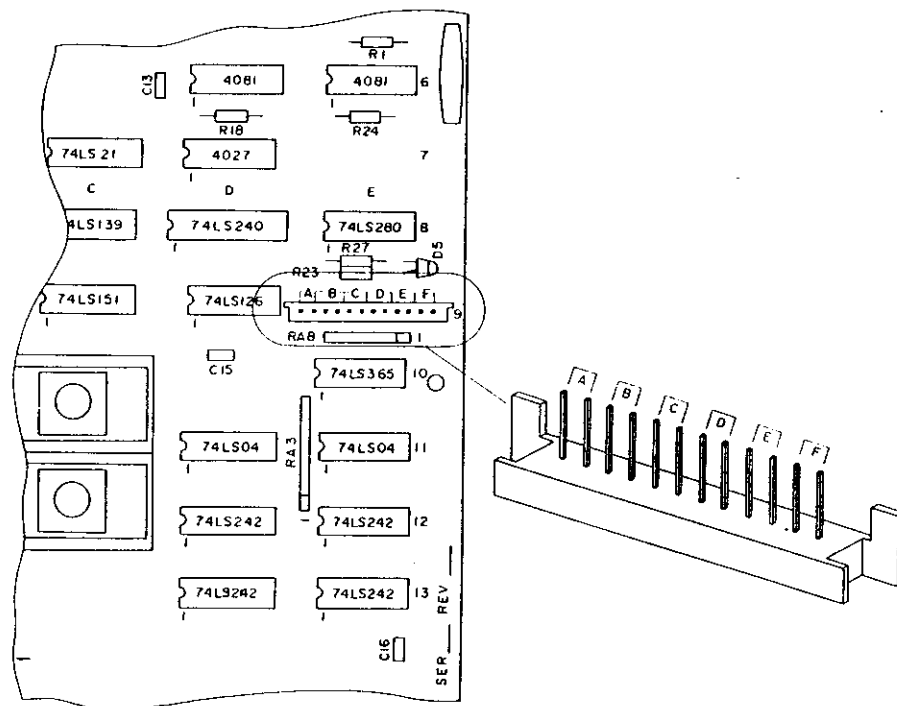

FIGURE 20 MPU Strapping Jack Pin Assignments
To determine the feature settings on the MPU printed circuit card, refer to the strapping jack requirements listed in TABLE 12. Refer to FIGURE 20 for strapping jack locations and pin assignments on the MPU printed-circuit card. A total of 100 strapping jacks are supplied with each KSU.
- (1) Turn off the system power supply and remove the system MPU and MEM circuit card.
- (2) Refer to ET-2460 Tech. Manual Section 3; Part II; Figure 20, Page 58 for location of the STJ strapping jack location on the MPU. Connect an STJ strapping jack on jack location D when equipping the SPD. Insert the MPU into the KSU.